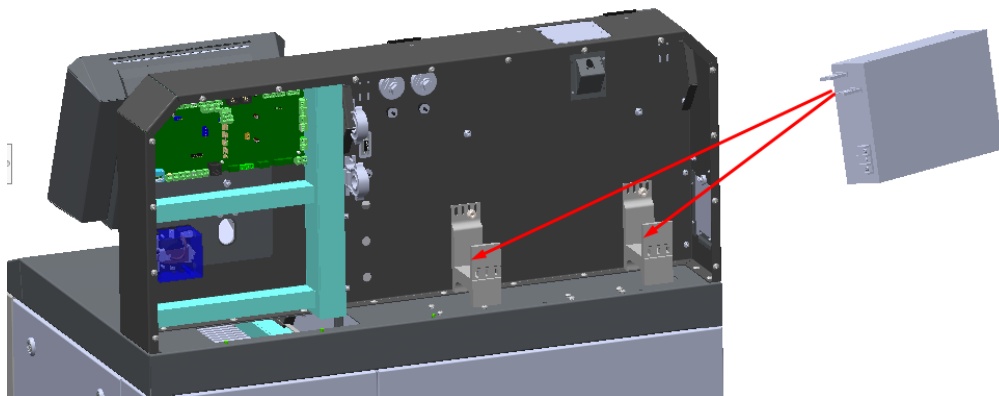

Figure 4
4. Install the RSP-3000-48 power supply unit on the brackets (see figure 4). When installing, position the power supply unit so that the wires are located on the left side.